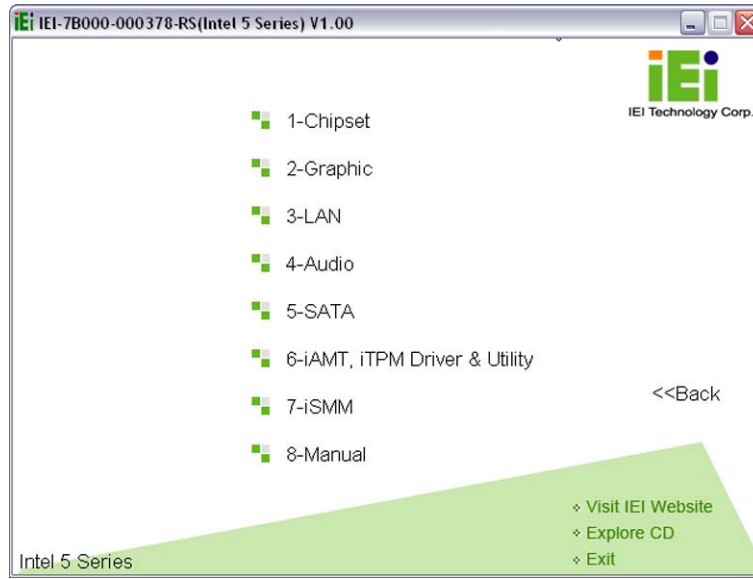

Figure 4-23: Available Drivers
Step 4: A new screen with a list of available drivers appears (**Figure 4-23**).